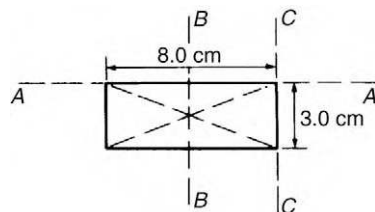

Figure 7.19
- Determine the second moment of area and radius of gyration for the rectangle shown in Figure 7.19 about (a) axis AA (b) axis BB and (c) axis CC